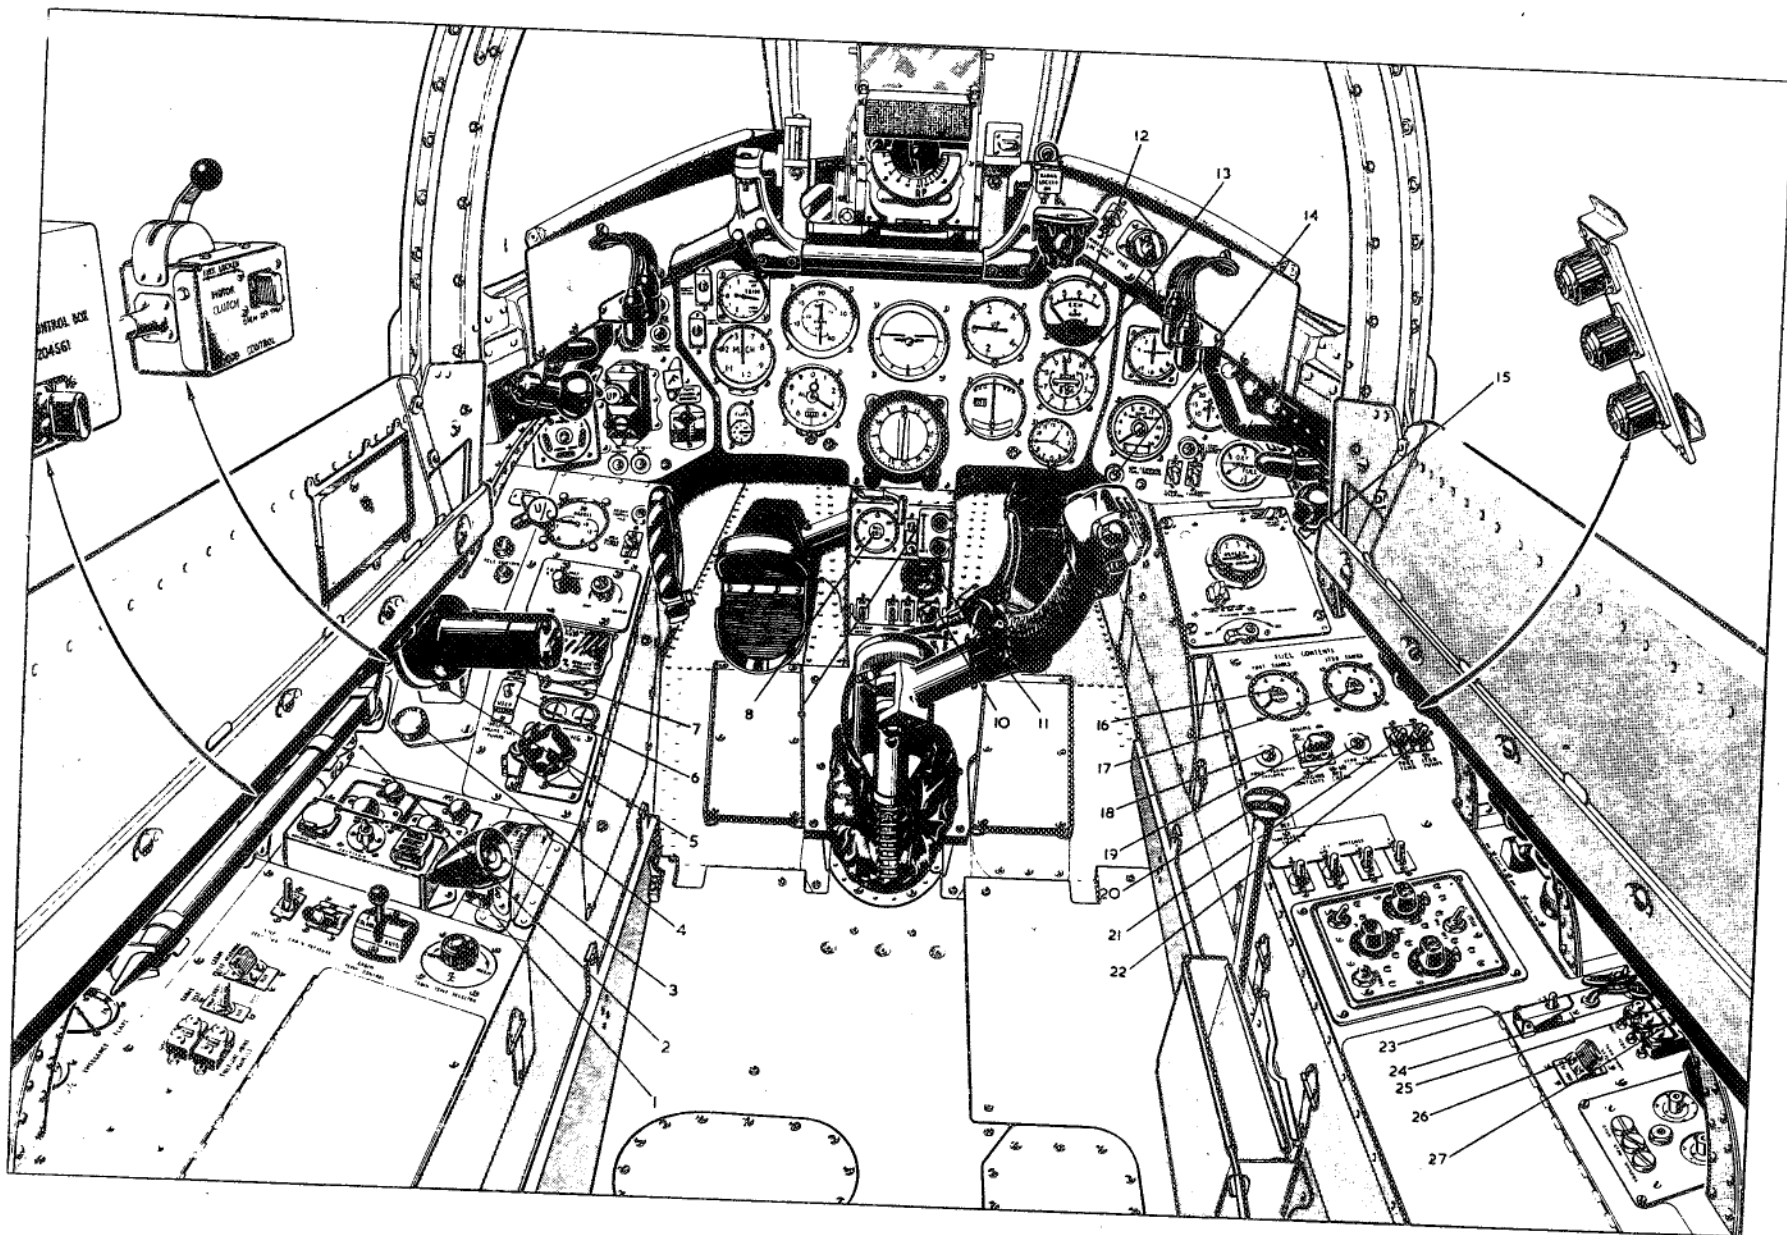

Fig. 2. Engine controls and instruments
**KEY TO FIG. 2 (ENGINE CONTROLS AND INSTRUMENTS)**